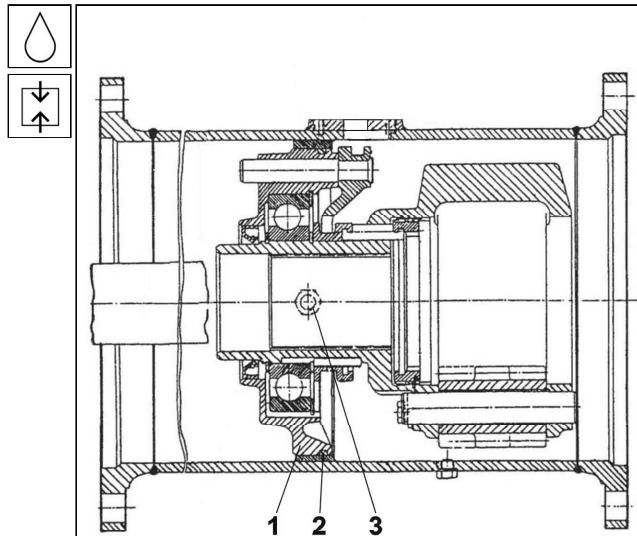

Fig. 6.42 Axle differential – installation
5. Apply sealant to threads of adjusting screws **3** (See Fig. 6.42). Screw the adjusting screws to secure the position of differentials and lock the screws with nuts.